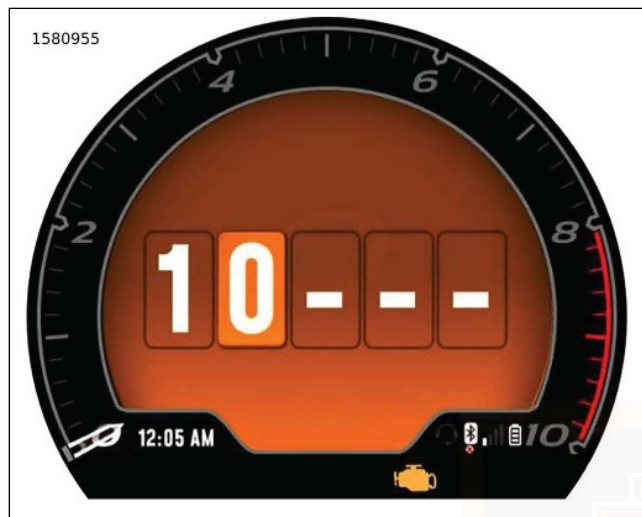

Figure 20. Moving Cursor to Next Digit
2. Figure 20 Select the next digit.